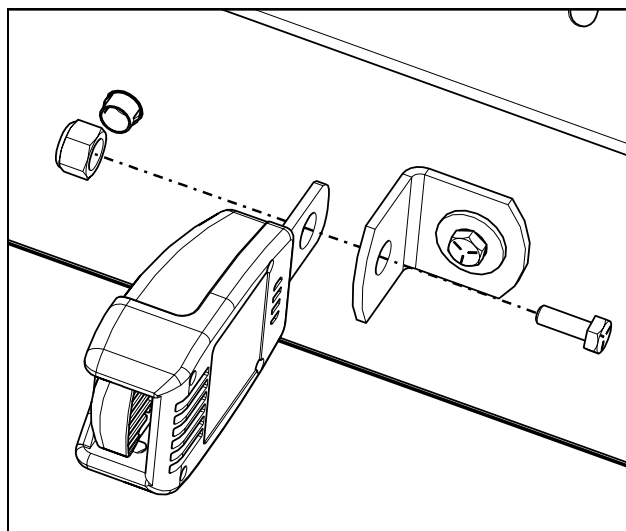

Fig. 13.6: Receiver Latch
- 13.6 Secure receiver latch to mounting bracket (9SB2) with (1) 7/16-14 x 1" hex head bolt and (1) 7/16-14 lock nut. Tighten hardware to 50 ft.-lbs. (67.8 N-m). (**Figure 13.6**)